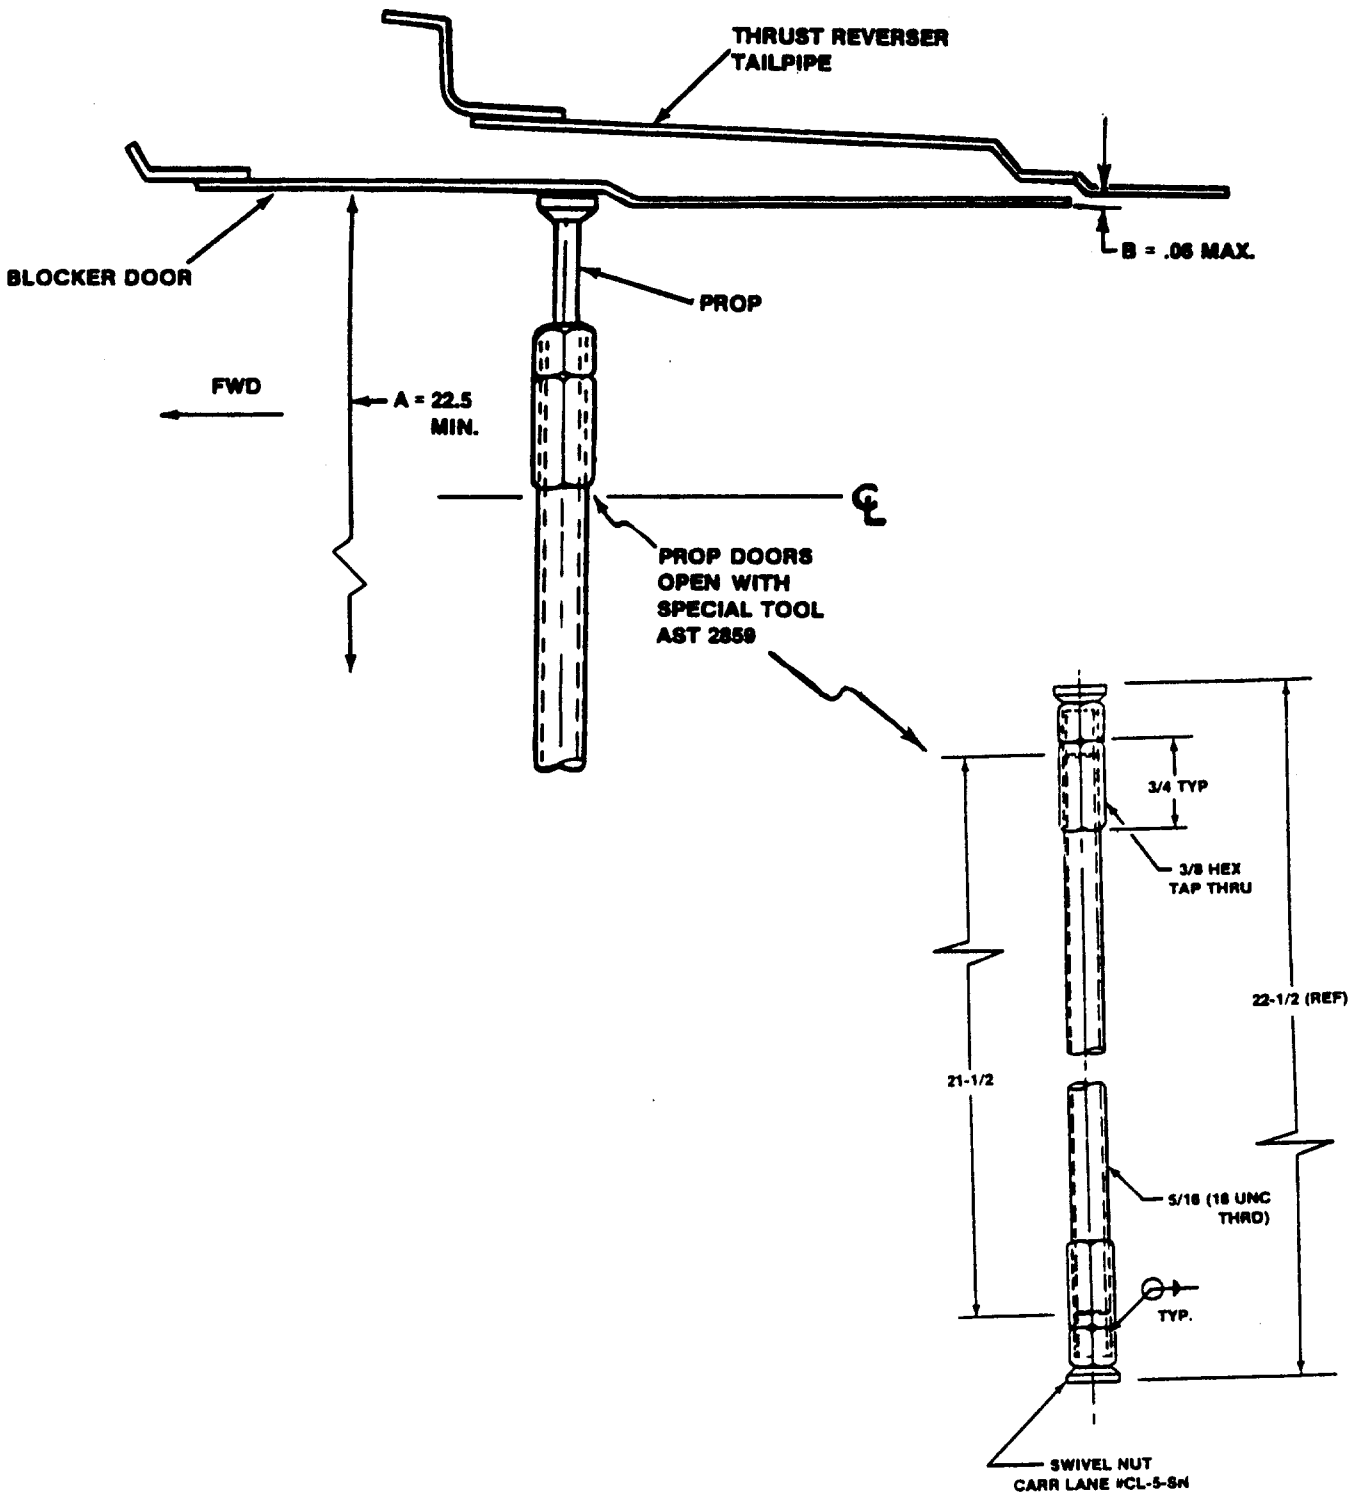
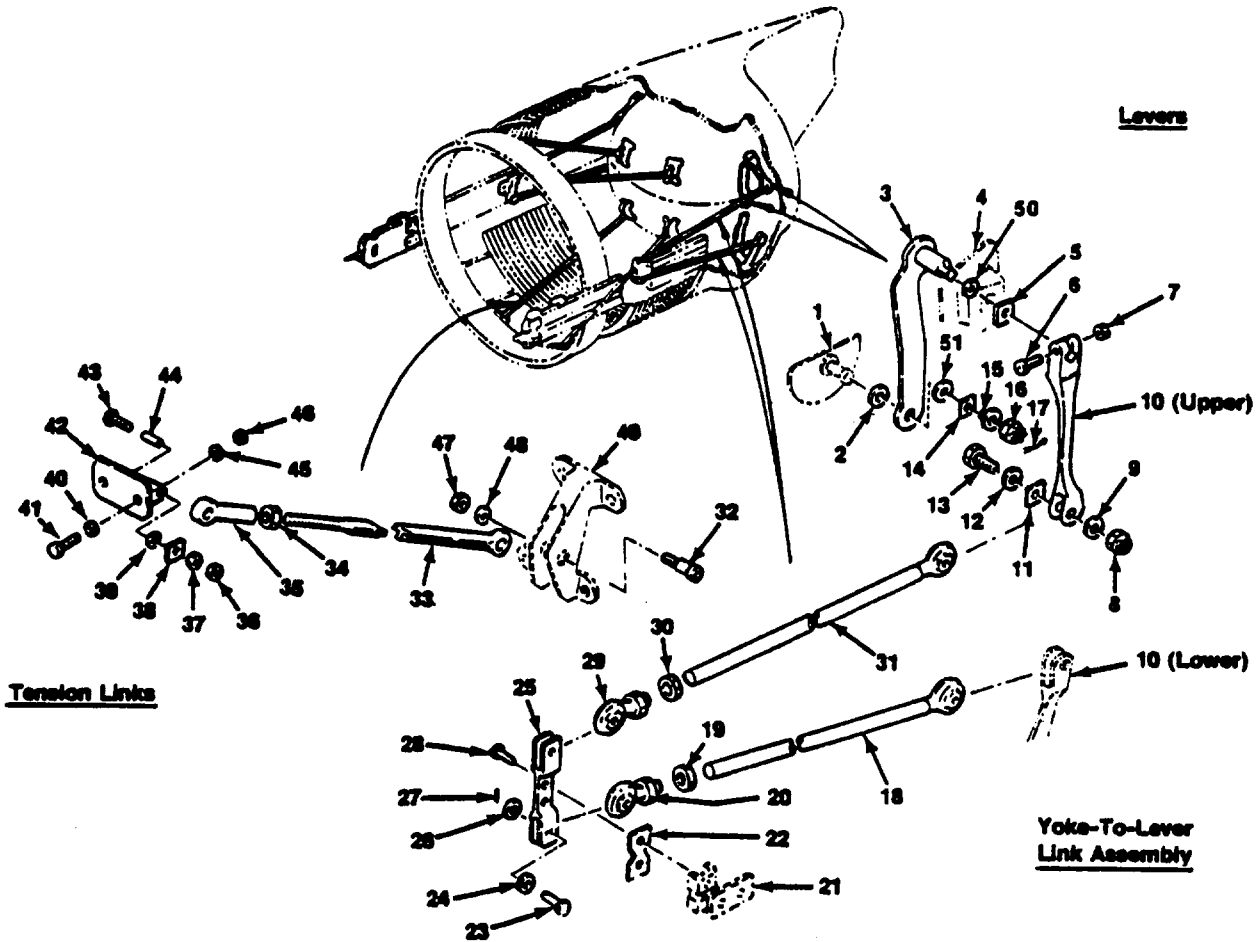
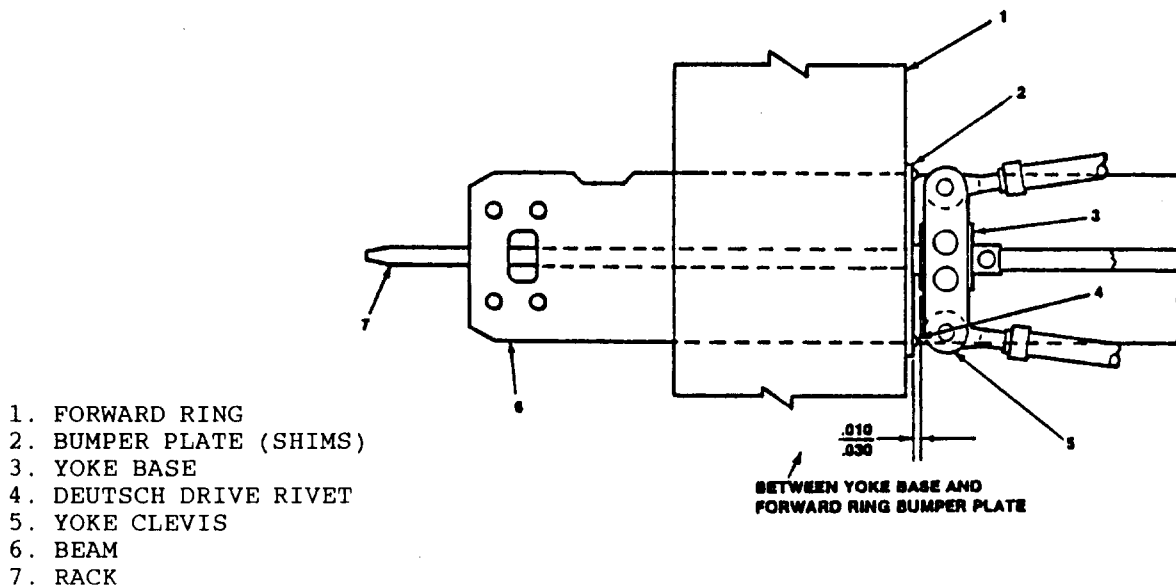

Figure 204 - Propping Blocker Doors
Figure 206 - Tension Links and Yoke-to-Lever Assemblies, Exploded View
Figure 208 - Yoke-to-Forward Ring Bumper Plate Clearance
- (1) Support the blocker doors in their maximum open position with the special tool AST 2859 (Figure 204) or with an equivalent prop. Clamp the racks to the beams.
- (2) Assure the A and B measurements (Figure 204) are within the prescribed limits.
- (1) Remove the two screws (28, Figure 206) attaching each yoke to the yoke bases and plates (shims).
- (2) Remove the cotter keys, washers (24, 26) and clevis pins (23) attaching the yoke to lever links (18, 31) to the clevises (25) (four places - two each clevis).
- (3) Remove the nuts (36), washers (37, 39), spring washers (38), screws (43) and bushings (44) attaching the tension rods (33) to the forward ring fittings.
- (4) Remove and discard the yoke stop bolts and locknuts if installed.
- (5) Position the racks to align the rack sequencing latch detents with the beam window (see Figure 206). It may be necessary to remove the forward ring shims to achieve position (see Figure 208). Clamp the racks to the beams to maintain relative positions.
- (6) Support the blocker doors in their maximum open position with special tool AST 2859, or equivalent, between the doors to act as a prop (see Figure 204). Check to make sure that dimension "A" measured at the forward edge of the door skins on the vertical centerline, as shown in the figure is at least 22.5 inches or greater to assure adequate clearance with the outboard fan duct seal when the blocker doors are open.
- (7) With the blocker doors supported as shown in Figure 204 check to make sure that dimension "B" measured between the inside surface of the doors at their aft edges, and the inside surface of the thrust reverser tailpipe is less than 0.0625 inches.
- (8) Adjust the length of the tension links (33, 34, 35) for best fit to the ring mounted fittings. Reinstall the bushing (44), screws (43), washers (37, 39), and nuts (36) attaching the tension links to the forward ring mounted fittings. Determine the number of D6-1 spring washers (38) required for each location as follows:
- (a) With all parts except the D6-1 spring washers (38) installed at each location, measure the end-play in each hardware stack-up.
- (9) Attach yoke clevises (25) and shim to base with screws (28). Torque to 5 to 7 inch-pounds.
- (10) Adjust length of link assemblies (18, 19, 20, and 29, 30, 31) to mate with yoke clevis (25) and temporarily attach the links to the clevises using pins (23), washers and cotter pin. Make certain the heads of the pins are on the beam side of the yoke.
- (11) Remove the rack-to-beam holding clamps and the blocker door support and lubricate all pivoting joints of blocker door linkage system with RAM GS-3.
- (b) Either equally lengthen both yoke-to-lever links of forward-most door and/or shorten both yoke-to-lever links of aft-most door to obtain mismatch within the allowable limit. Verify that the dimensional requirements of Figure 204 are met. If these requirements cannot be met, proceed with the following steps.
- (d) Recheck to ensure that the blocker door clearance requirements shown in Figure 204 are still met.
- (e) If blocker door clearance requirements are not correct per Figure 204 equally lengthen the inboard and outboard yoke-to-lever links of forward-most door and/or equally shorten the links of aft-most door.
- (f) Repeat steps (1) through (5) as often as necessary to achieve the required clearance and mating requirements shown in both Figures 204 and 205.
- (15) Measure and adjust the forward ring-to-yoke clearance as follows:
- (b) Measure the yoke-to-ring clearance as shown in Figure 208. The clearance must be within 0.010 to 0.030 inch and the inboard and outboard measurement must be within 0.010 inch of each other. If not within tolerance, bumper plates must be added.
- (d) Unclamp the racks, remove the door prop and push the doors open. Install new bumper plate (2, Figure 208)(or combination of plates) using Dow Corning DC93-076 adhesive on all metal-to-metal surfaces. Use drive rivets to secure bumper plates in position on forward ring. Ensure that no portion of the bumper plate(s) extend past ring edge.
- (16) Check and adjust the door to tailpipe clearance as follows:
- (1) Remove the translating section for access per Removal/Installation instructions, Section A(2).
- (2) Remove the sugar scoop per Removal/Installation instructions, Section A(3).
- (3) Disconnect the yoke clevis (25, Figure 206) from the yoke base by removing the two screws (28). Do not disturb the yoke to lever links (18, 31).